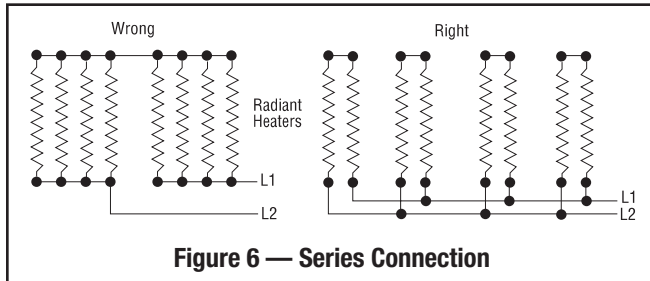

Figure 6 — Series Connection
- SERIES CONNECTION** of Radiant Heaters of equal volt and watt rating is permitted in all line voltages up to 600 volts. In making such series connections it is necessary to observe the “right” (series-parallel) connection rather than the “wrong” (parallel-series) connection both shown in Figure 6. If heaters are connected according to the “wrong” illustration, failure of any heater will cause progressive failure of other heaters still operating.